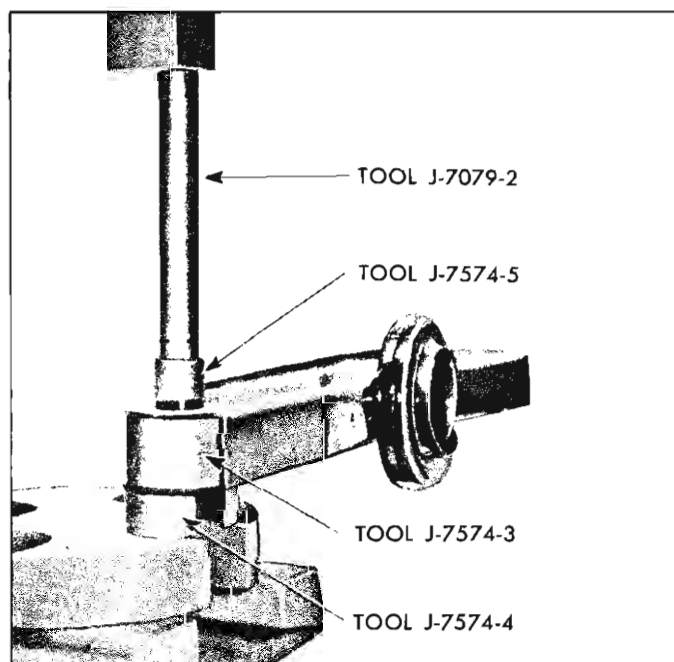

Fig. 30—Removing Lower Control Arm Front Bushing
1. With control arm and bushing centered over Tool J-7574-4 and with Tool J-7574-3 in place, and with arm resting horizontally by supporting at opposite end, press or tap bushing from arm using Tool J-7574-5 and Tool J-7079-2 (Driver Handle) (fig. 30).
3. Repeat above operations for opposite end using Tool J-7574-1 in place of Tool J-7574-5. (This operation is similar to that shown in Figure 30.)